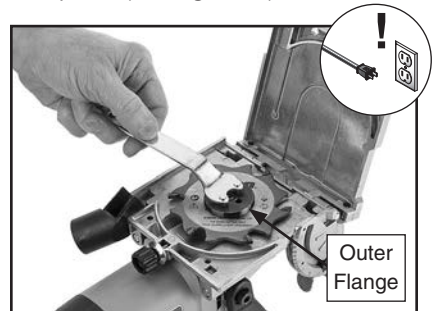

Figure 21. Removing blade with spanner wrench.
5. Press spindle lock button (see Controls & Components on Page 8) and use spanner wrench to turn outer flange until spindle lock engages spindle (see Figure 21).